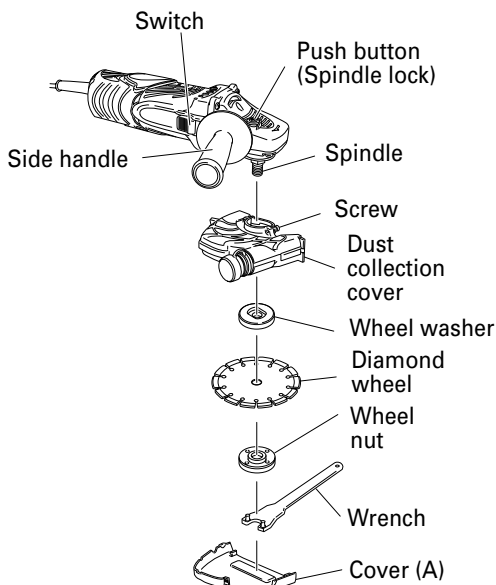

Fig. 5
- (1) Remove the cover (A).
- (2) Thoroughly remove dust accumulated on the spindle and washers.
- (3) As shown in Fig. 5, the concave portions of wheel washer and wheel nut must be on the diamond wheel side.
- (4) Thoroughly clamp the wheel nut.
Use the provided wrench to remove the wheel nut. (Fig. 5)